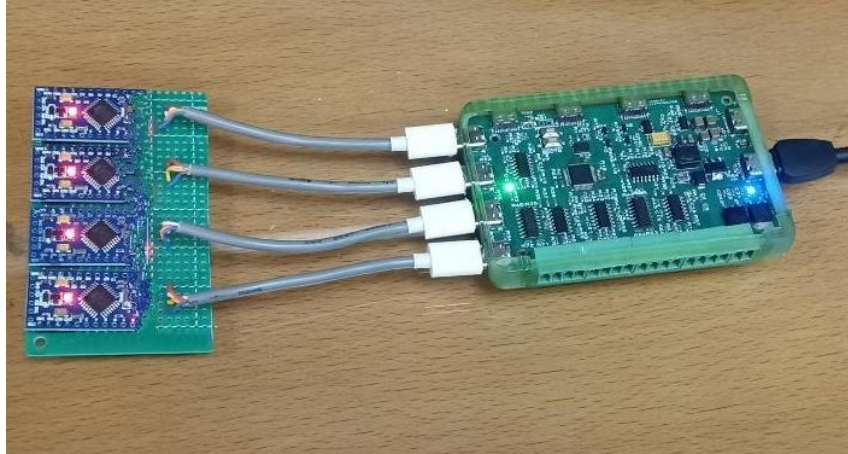

Figure 4: The top LEDs of STM32s on the digital channel port tester are turned on upon launching the software on PC.
3. The four top LEDs of all STM32’s should turn on at this point, as shown in **Figure 4**. If the top LED of any STM32 does not switch on, refer to the troubleshooting section of this manual.